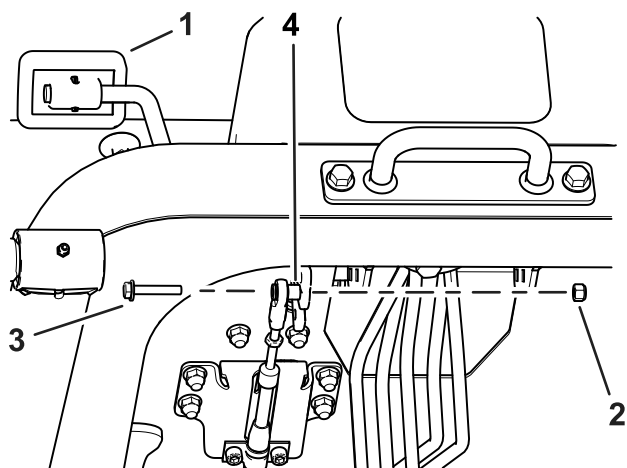

Figure 1
3. Remove the nut, bolt, and spacer securing the cable to the traction pedal and rotate the pedal towards the seat (Figure 1).